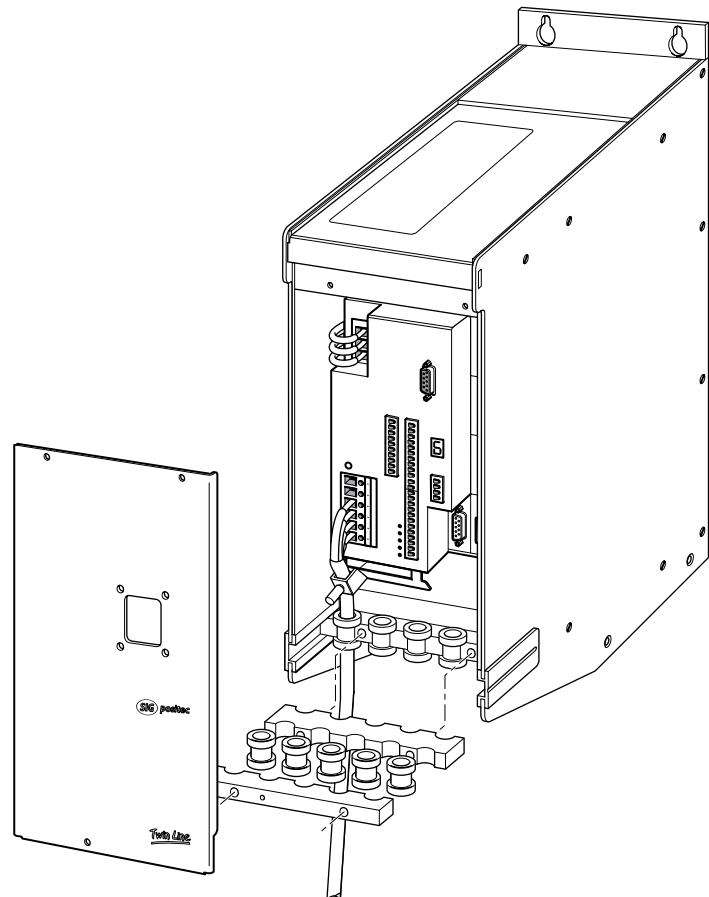

Fig. 4.6 Connection example for the TLC51xP unit
- ▶ Mount the grommets as shown in Fig. 4.6.